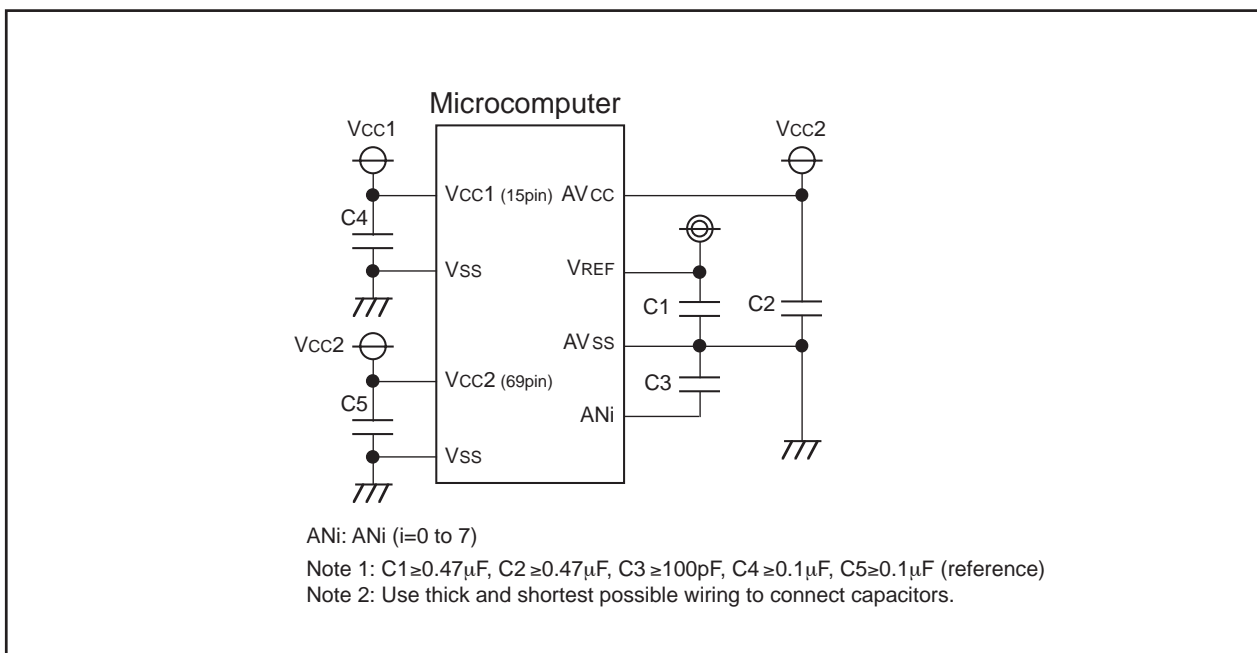

Figure 2.12.11. VCC, VSS, AVCC, AVSS, VREF and ANi Connection
- (1) Make sure the port direction bits for those pins that are used as analog inputs are set to "0" (input mode). Also, if the ADCON0 register's TGR bit = 1 (external trigger), make sure the port direction bit for the $\overline{\text{ADTRG}}$ pin is set to "0" (input mode).
- (2) When using key input interrupts, do not use any of the four AN4 to AN7 pins as analog inputs. (A key input interrupt request is generated when the A-D input voltage goes low.)
- (3) To prevent noise-induced device malfunction or latchup, as well as to reduce conversion errors, insert capacitors between the AVCC, VREF, and analog input pins (ANi (i=0 to 7)) each and the AVSS pin. Similarly, insert a capacitor between the VCC pin and the VSS pin. Figure 2.12.11 is an example connection of each pin.
- (4) If the CPU reads the ADi register (i = 0 to 7) at the same time the conversion result is stored in the ADi register after completion of A-D conversion, an incorrect value may be stored in the ADi register. This problem occurs when a divide-by-n clock derived from the main clock or a subclock is selected for CPU clock.